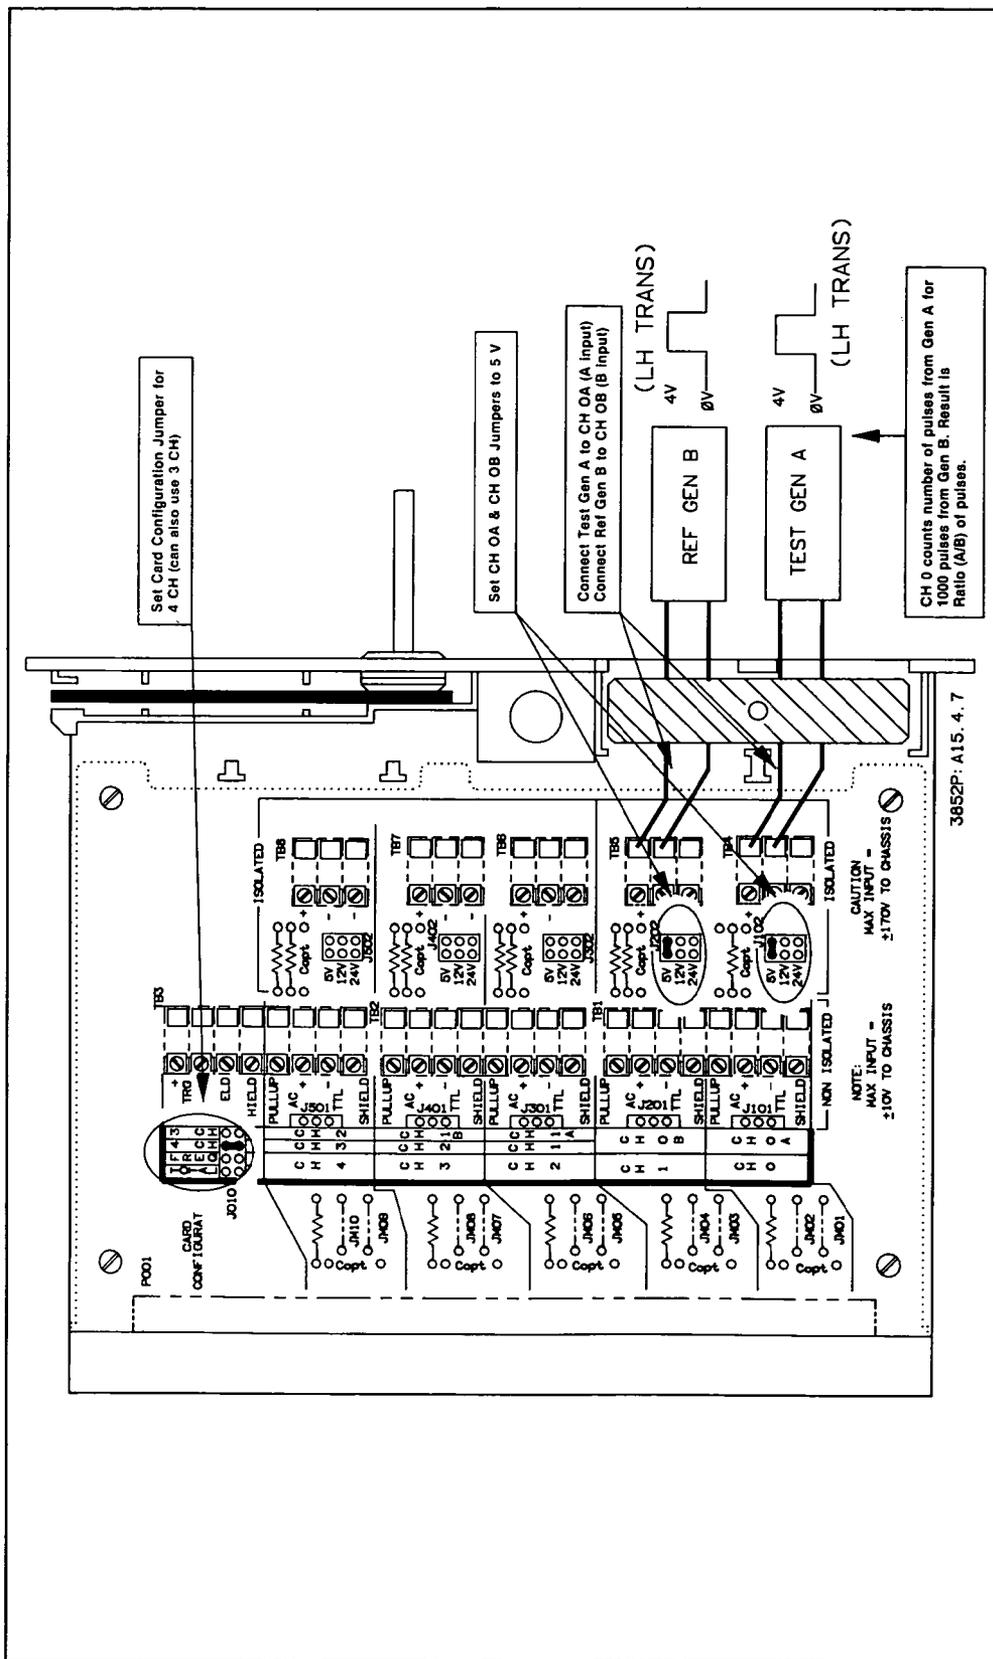

Figure 4-7. Example: Measure Ratio
Example: Measure Ratio This example program measures the ratio of the number of pulses output from a test pulse generator (A) to 1000 pulses output from a reference pulse generator (B). When the measurement is complete, a MC interrupt is generated and the interrupt time and ratio (A/B) are returned. See Figure 4-7 for typical connections and counter configuration for channel 500 of a counter in slot 5 of the mainframe.